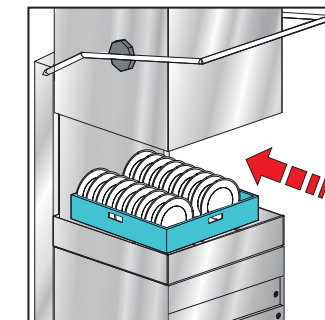

Fig.1
- Remove any loose food scraps and soil. Place items in the rack correctly making sure the hollow-ware is inverted. Slide the rack into the machine in the direction as shown in Fig.1 and close the door.